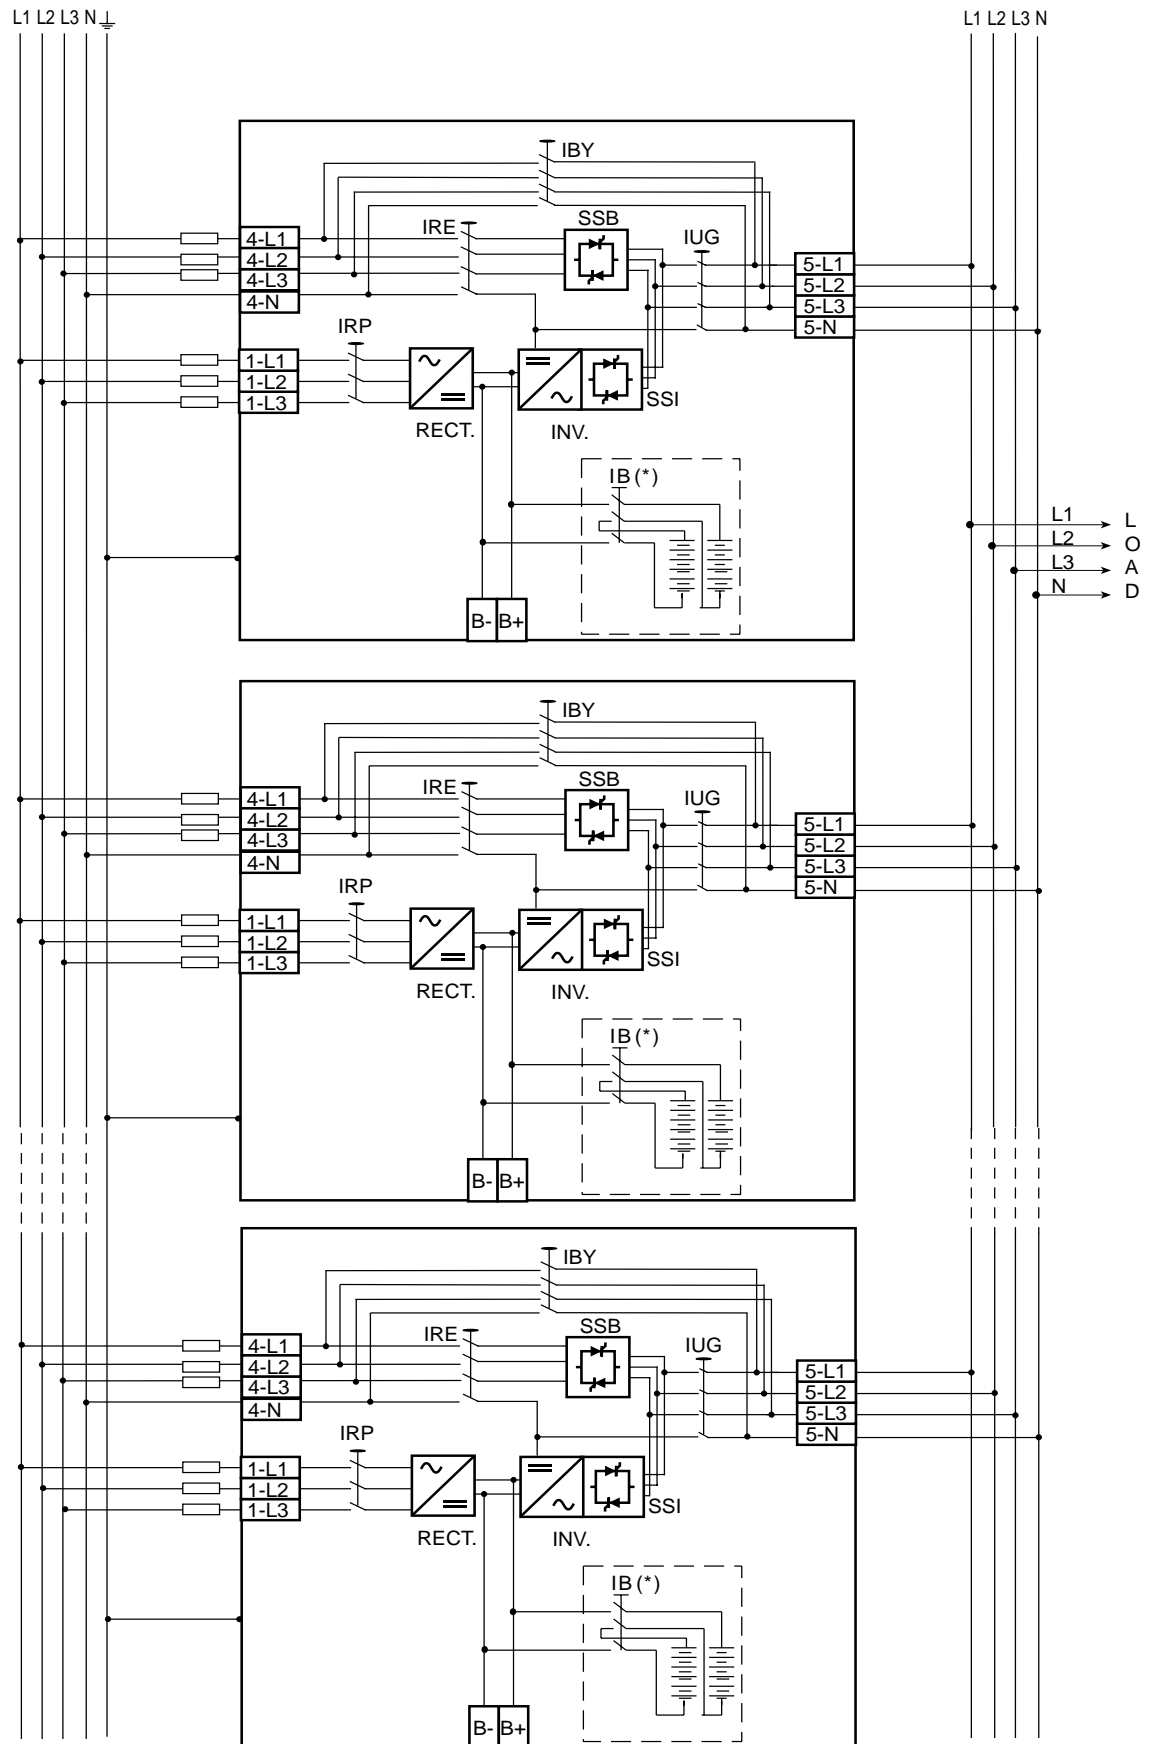
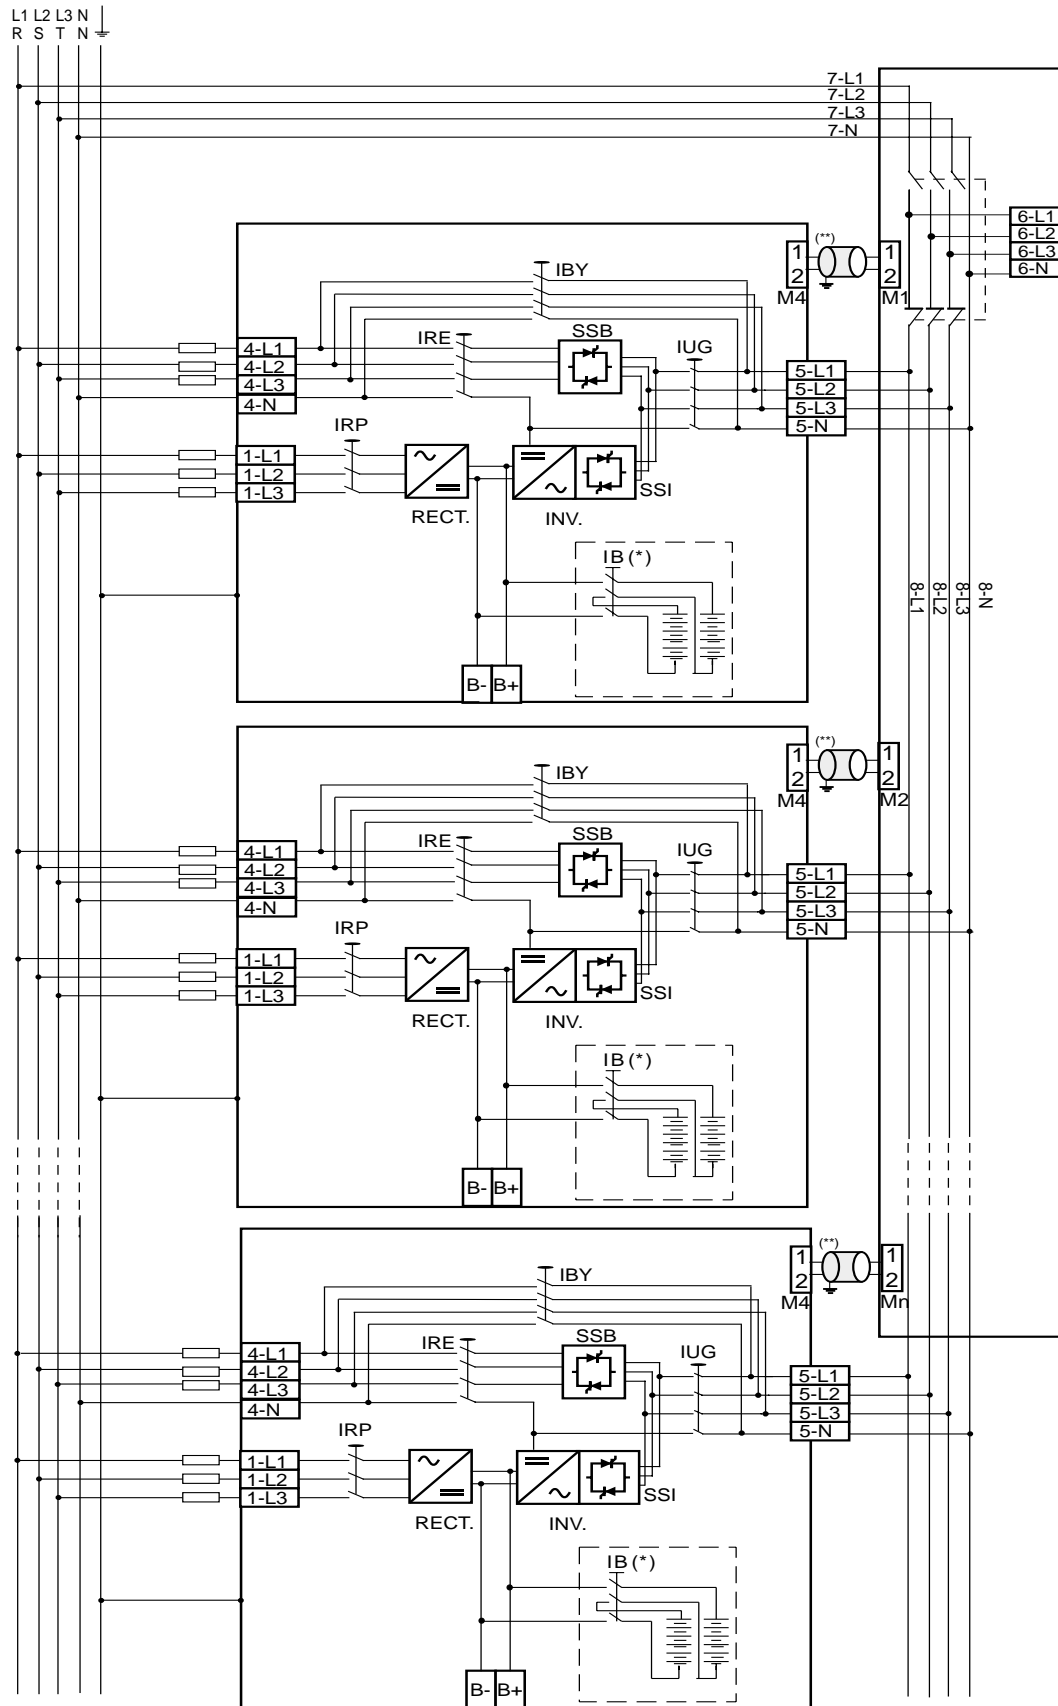

FIG. 1.15.1 Interconnection of parallel units with integrated maintenance bypasses and separate bypass terminals.
FIG. 1.15.2 Interconnection of parallel units with common maintenance bypass and separate bypass terminals.
**Note:** The installation for each unit must be performed in accordance to the installation of single units as described in the previous sections. Additionally to this, the outputs must be connected in parallel as shown in FIG. 1.15.1 or in FIG.1.15.2